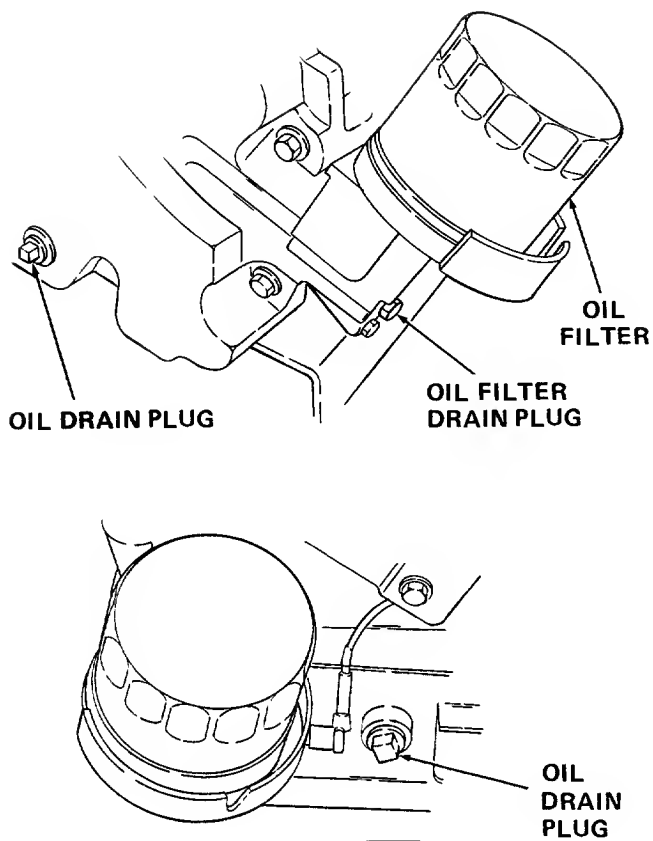

Figure 32. Oil Drain Plugs, Oil Filter and Oil Filter Drain Plug
1. Place the tractor on a level surface and engage brake lock. Remove the drain plug and collect the old oil in an adequate container. (Refer to Figure 32.)